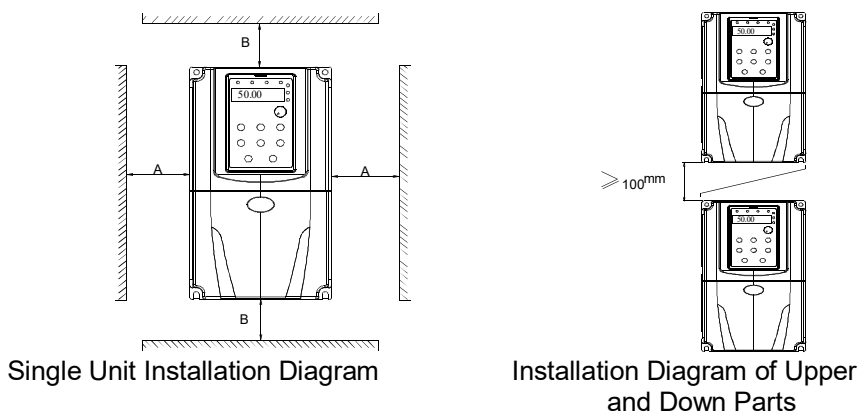

Figure 3-1 Installation Diagram
- 1) Install the inverter vertically so that the heat may be expelled from the top. However, the equipment cannot be installed upside down. If there are multiple inverters, parallel installation is a better choice. In applications where the upper and lower inverters need to be installed, please refer to Figure 3-1 “KE300 series Inverter Installation Diagram” and install an insulating splitter.
- 2) The mounting space should be as indicated as Figure 3-1, so as to ensure the heat dissipation space of the inverter. However, the heat dissipation of other devices in the cabinet should also be taken into account.